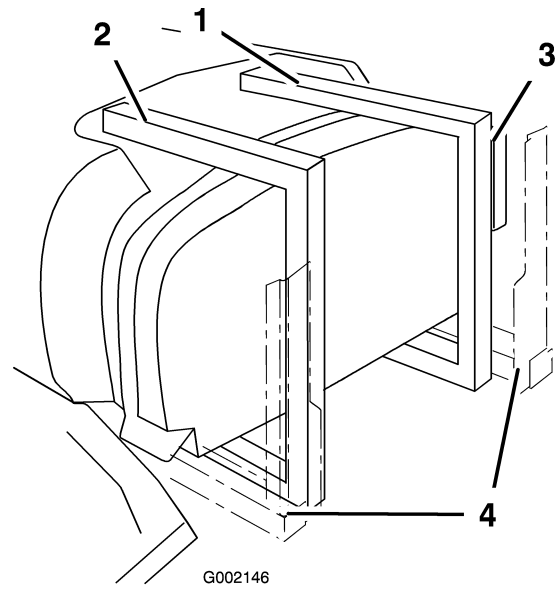

Figure 4
4. The supports should wrap around the rear end of the tank (Figure 4).